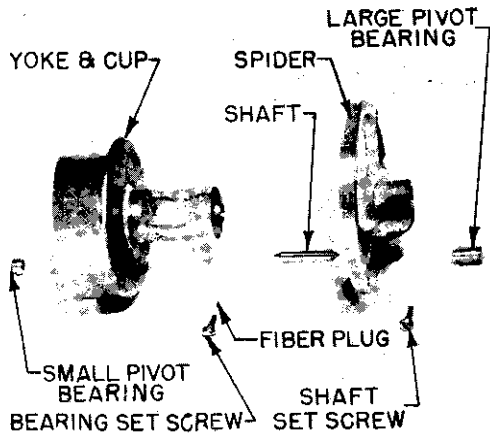

FIG. 12 - Spider Group Disassembled
- (i) The Yoke and Cup (13V35) which is mounted in the spider is removed by first loosening the small round-head screw which holds the large pivot bearing (13V22). Then unscrew both bearings (13V21 and 13V22) from the yoke. Loosen the round-head setscrew in the spider. Remove the bearing shaft (26W52). Then lift out the spider. A disassembled view is shown in Figure 12.